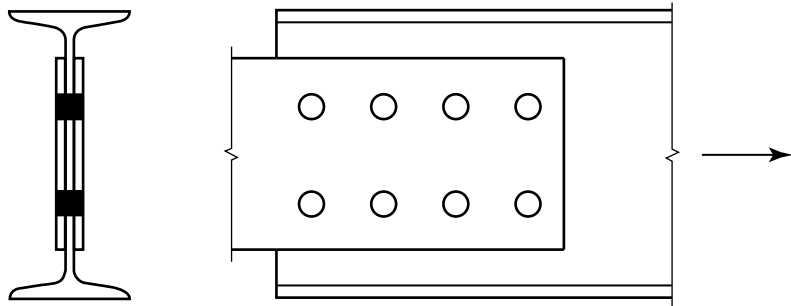

FIGURE P3.6-4
- 3.6-4** Select an S shape for the tension member shown in Figure P3.6-4. The member shown will be connected between two plates with eight $\frac{7}{8}$ -in. diameter bolts. The service dead load is 216 kips, the service live load is 25 kips, and the length is 22 ft. Use A36 steel.